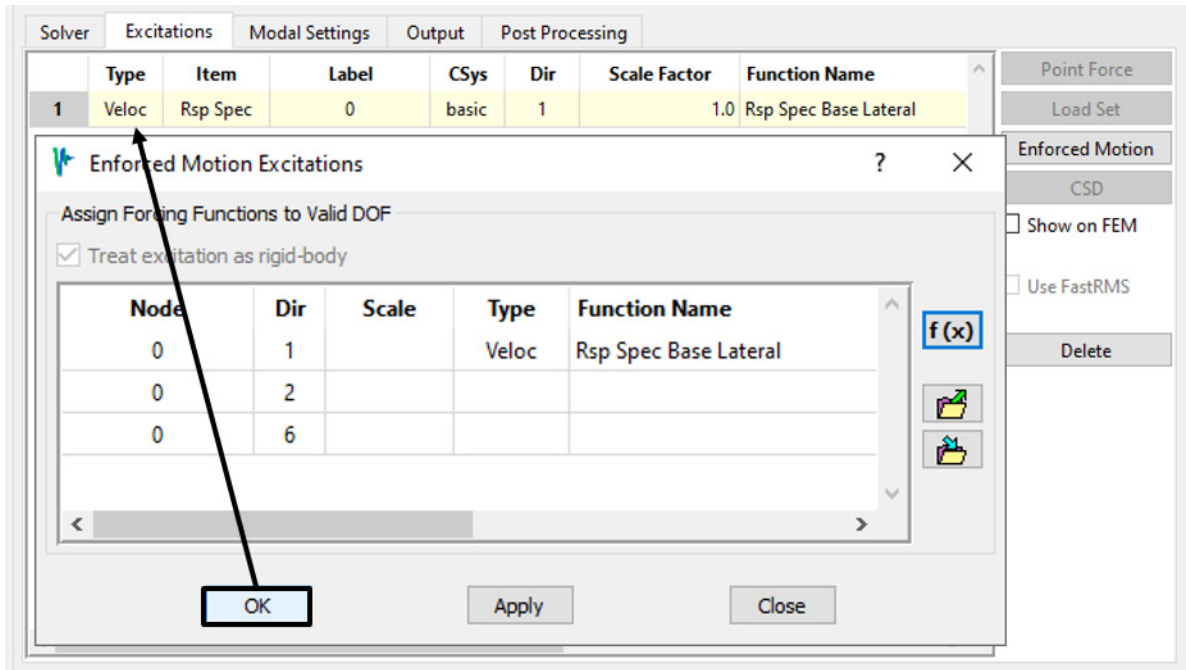

Figure 4-81. The excitation uses the basic coordinate system.
6. Click **OK** on the enforced motion dialog to finalize the excitation definition (Figure 4-81). Note that it uses the basic coordinate system. Also note that it is considered part of rigid body motion set; this makes no difference here, but it would be important if more than one direction were being excited.